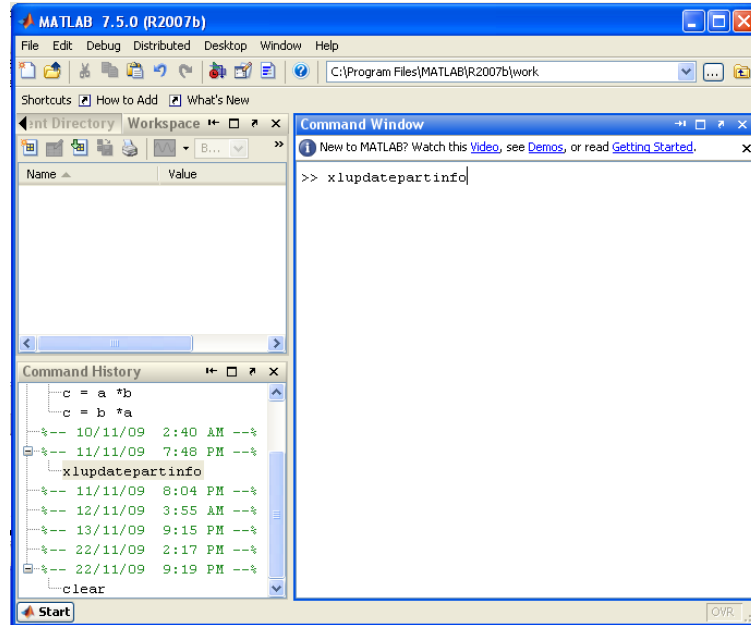

Figure 21: Initialize Parts List
**Note:** If this is the first time to use the System Generator you need to build the parts list and store them into MATLAB. Execute the command `xlupdatepartinfo` in the MATLAB command window as shown in Figure 21.